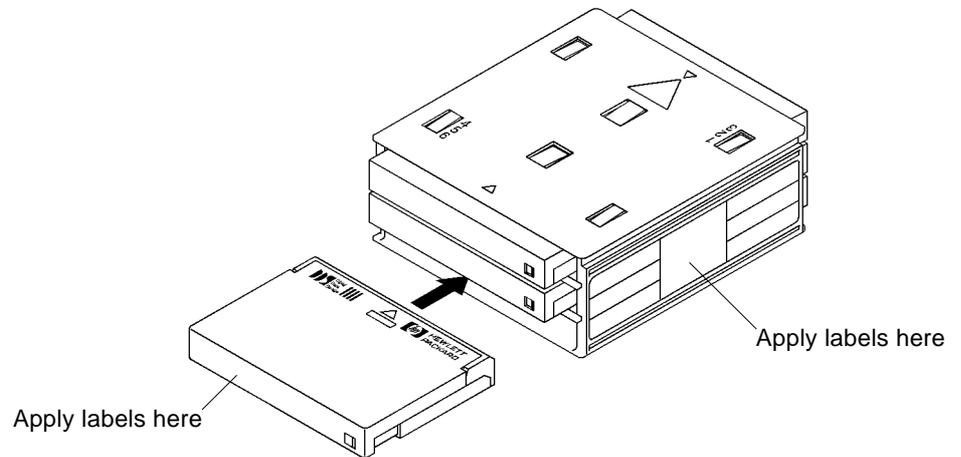

Figure 2-3 Loading Cartridges into the Magazine
- Only stick labels in the label areas (Figure 2-3).
1. Place as many cartridges as you need into the magazine, pointing towards the center of the magazine (Figure 2-3). Make sure that the small arrows on the magazine and cartridge line up.